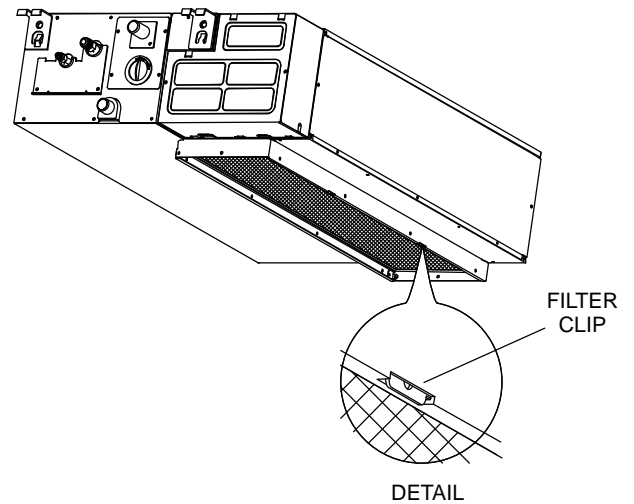

Figure 5. Field-Relocation of Return Air Filter (Typical)
7. The unit is factory-configured for the supply air to be delivered from the front and the return air filter at the rear of the unit. The return air filter location can be relocated in the field for bottom return air filter access, if more convenient. See figure 5.